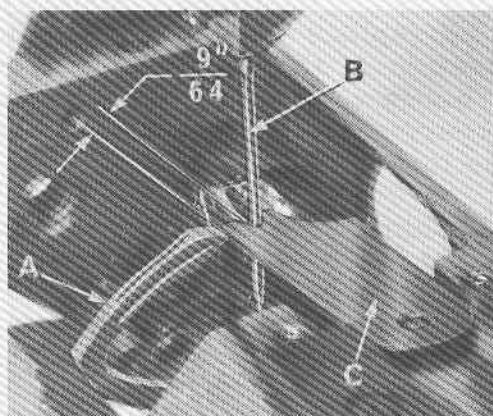
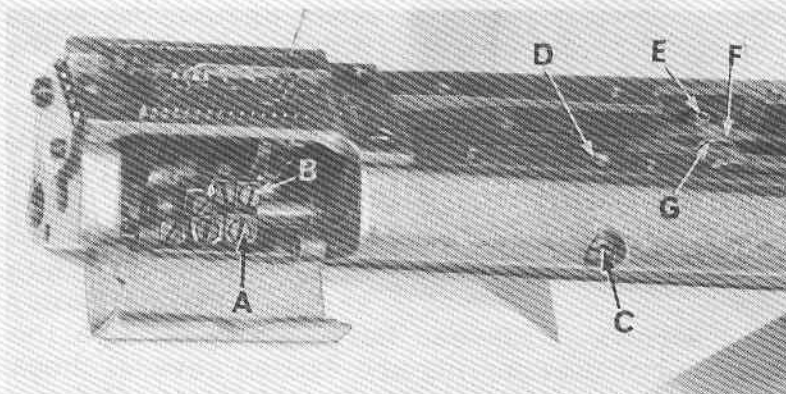
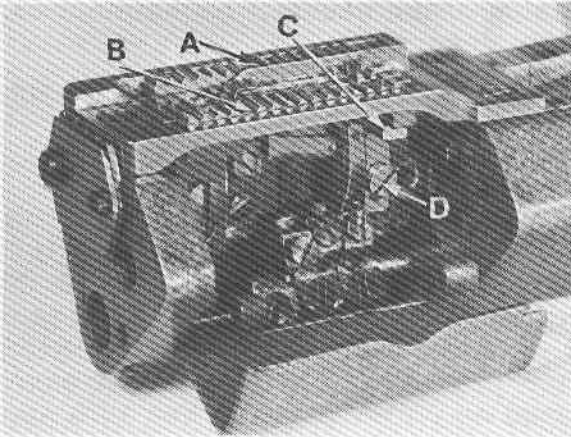

Fig. 5
Fig. 6
Fig. 7
Insert a new set of needles, type and size specified. Always adjust the looper (A, Fig. 5) for the left needle first. Set the looper so that the distance from the center of the needle (B) to the point of the looper (A) is $9/64$ inch, when the looper is at its farthest position to the left. Looper gauge (C) No. 21225- $9/64$ can be used advantageously in making this adjustment. If adjustment is required, loosen screw (A, Fig. 6) in looper holder, permitting movement in either direction to obtain the $9/64$ inch dimension as shown in Fig. 5. Retighten screw (A). Rotate handwheel in operating direction to assure that the looper point passes to the rear of the needle as close as possible without contacting, and the descending needle barely brushes the back of the looper. This adjustment can be made by loosening screw (B, Fig. 6) very slightly, so the looper can be moved in the holder, but rigid enough to retain its position while rotating machine through its cycle to attain the required movement, retighten screw. Always check the $9/64$ inch looper gauge setting after setting the looper to the back of the needle, and conversely, always check the setting of the looper to the back of the needle after setting the $9/64$ inch looper gauge.
Before assembling the main and differential feed dogs, set the feed bar eccentric pin (C, Fig. 6) located in the left side near center of cylinder, so that the slot in the head is in a horizontal position. This assures a neutral position of eccentricity for the purpose of raising or lowering the height of the main and differential feed bars simultaneously. The feed bar pin is retained in position by set screw (D). Assemble the differential feed dog (A, Fig. 7), main feed dog (B) and throat plate. Both the main and differential feed dogs can be individually adjusted to height due to having elongated slots for their attaching screws. The main feed dog at its highest position, should be set to project above the throat plate, slightly more than the depth of its teeth. The differential feed dog may then be leveled with the main feed dog. Tighten the attaching screws securely.
Should the main feed dog require repositioning due to contact with the throat plate in its forward or rearward travel, loosen set screw (E, Fig. 6) in main feed bar driving
link (F) rotate main feed bar eccentric driving stud (G) as required. Driving stud (G) has a thin hexagon head with cut-outs on two of the flats allowing movement by tapping with a sharp pointed tool when a thin open end wrench is not available. Whenever the main feed bar eccentric driving stud position has been changed, re-check rear needle guard setting, adjustment may be required. Retighten set screw (E). Position main feed dog support (C, Fig. 7) flush against bottom of main feed dog (B), tighten support screw (D) securely.